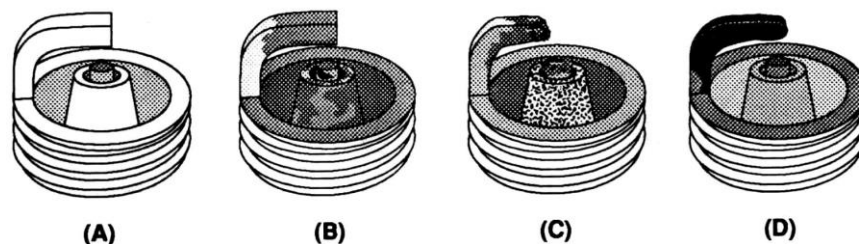

Figure 9 Spark Plug Condition
8. Push the throttle wide open while the engine is off. Each solenoid should make a clicking noise if it is cycling correctly. If no noise is heard, check all the wiring connections and the wiring schematic in Figure 9.
- 2. Perform a dynamometer pull or a full throttle pass down the racetrack. Note the power reading or vehicle mph (not e.t.). Examine spark plugs for the indication of lean or rich nitrous/fuel conditions (refer to Figure 9 for tips on reading the spark plugs).